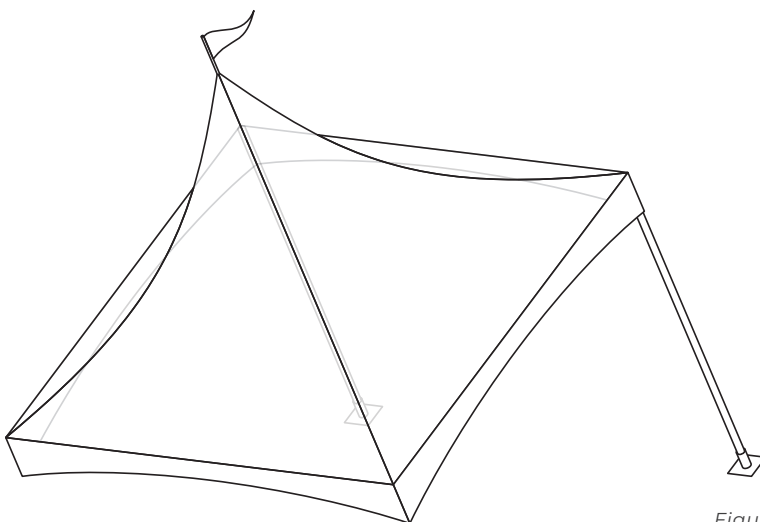
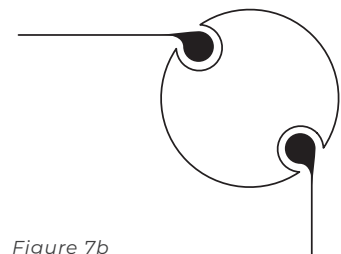

Figure 7a
Figure 7b
8. Place two poles on one side beneath the frame so that the roof frame lies at an angle (see figure 7a). Ensure that you tilt the frame evenly on both sides, so that the frame does not become skewed. Ensure that the widening of the keder groove is at the top of the vertical poles and that the keder grooves are fitted at an angle of 45° in relation to the corners of the tent (figure 7b).